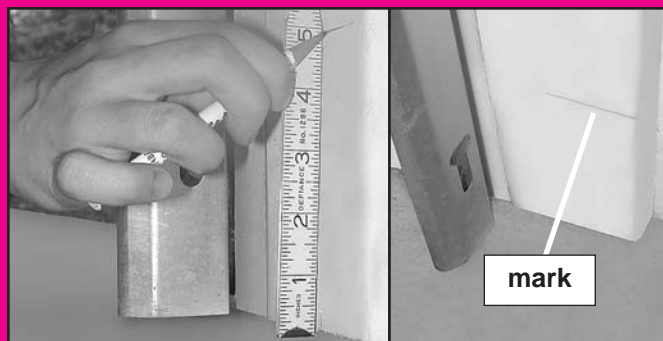

FIG. 3-1 Mark door frame.
- Mark both sides of garage door frame or wall 5" above floor. (Fig. 3-1).